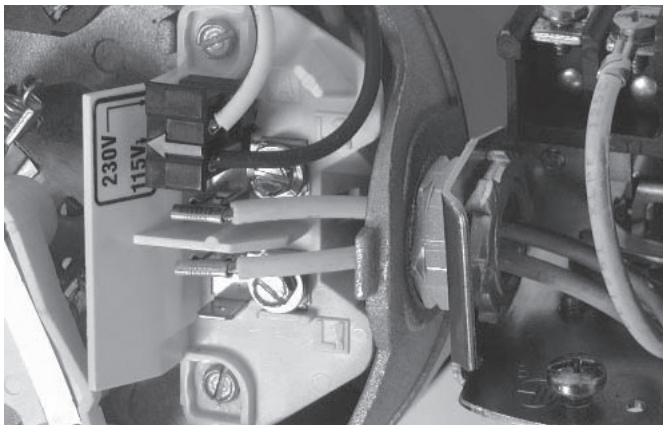

**Figure 8: Voltage set to 230 volts, Plug Type**
4. Attach the incoming power leads to the two outer screws on the pressure switch as shown in Figure 8.
5. Attach the ground wire to one of the grounding connections, shown in Figure 8.